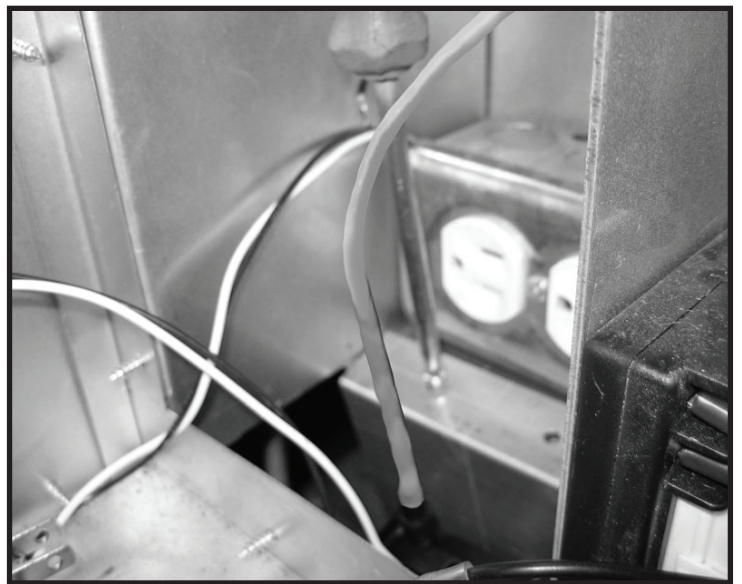

Figure 16: Securing the pressure switch.
4. Secure the pressure switch in the control box using the screw provided (Figure 16).